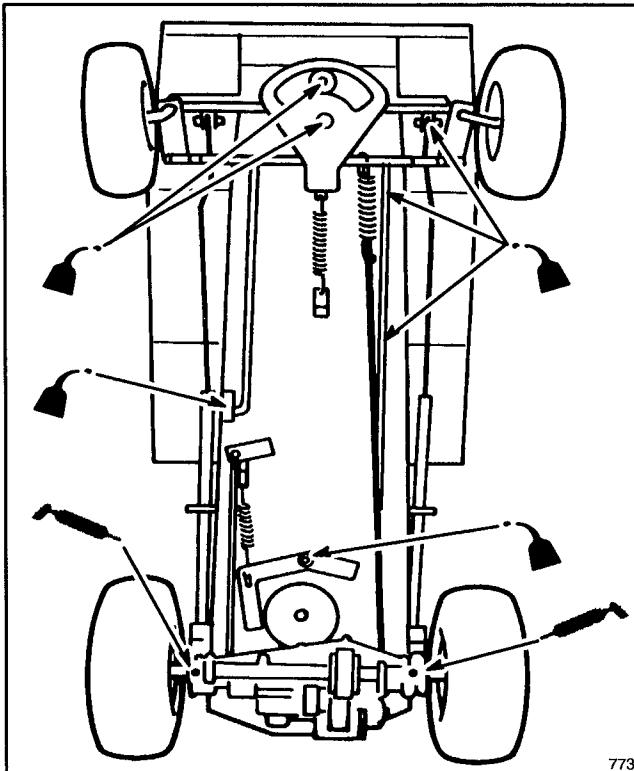

Figure 13
3. Grease rear axles with one to two pumps of No. 2 general purpose grease. The zerk fittings are located just inside of the rear tires on the bottom of the transaxle (Fig. 13).
4. Oil pivot points of steering, drive, brake, clutch, and deck engagement linkage with light oil (Fig. 13). Wipe up any excess oil.